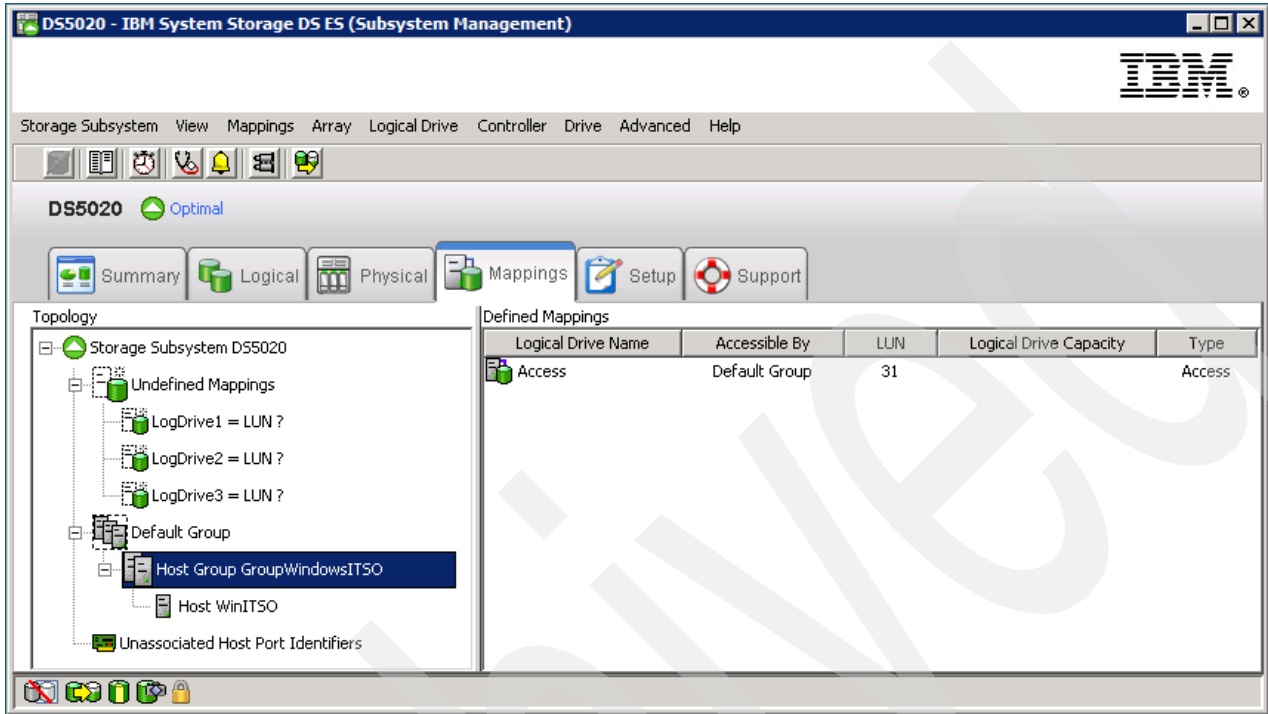

Figure 4-75 New host and host group placed in the default group
10. Repeat the same steps to create more hosts and host groups. Once finished, the new host (and the host group, if it was also defined) is placed in the default group. It will stay there until you actually create a storage partition by assigning the logical drives to that host (or group). Figure 4-75 shows an example.